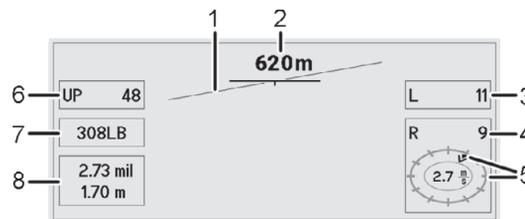

Abb. 3
3. If necessary, correct the wind direction with the buttons "to the right / to the left". To do this, press the buttons until the wind direction arrow (example Fig. 3: wind is coming from the "1 o'clock" direction) shows the correct wind direction.
7. To go back to the first menu (Fig. 3): press the On/Off button (3/1) again briefly.